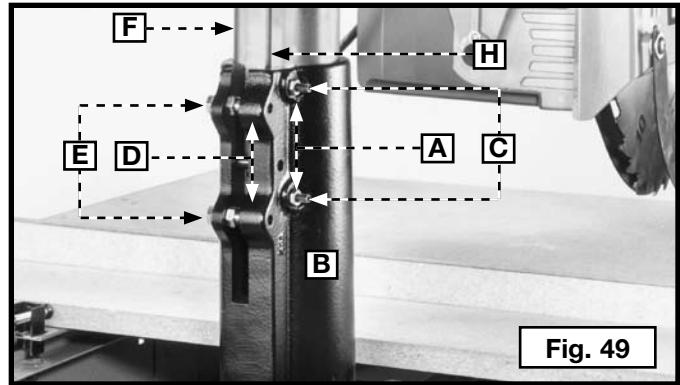
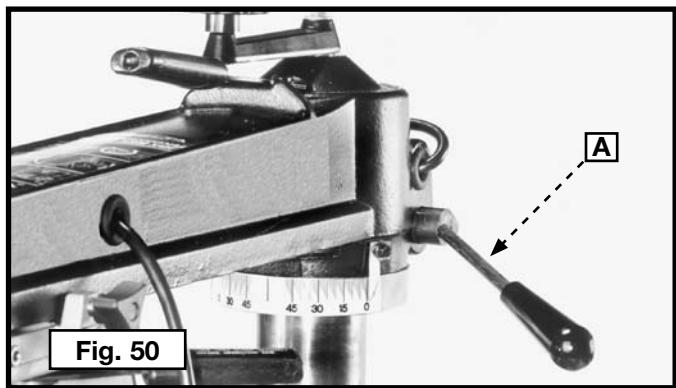
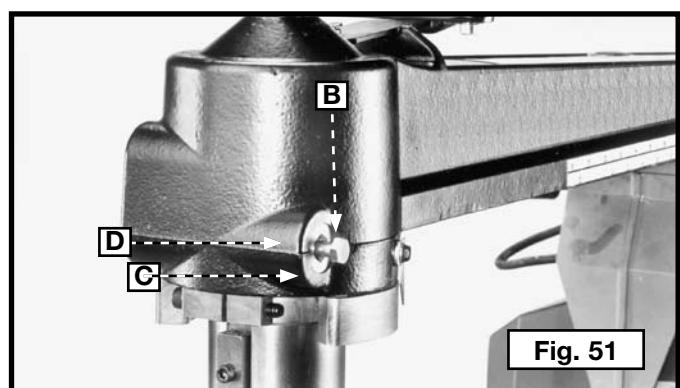

Fig. 49
Fig. 50
Fig. 51
1. Loosen the hex nuts (A) Fig. 49 and the gib adjustment screws (C).
2. Loosen the hex nuts (D) and turn the screws (E) until the column base wraps around the column securely and can be raised or lowered without binding. Tighten the hex nuts (D) against the column base.
3. Tighten the gib and adjustment screws (C) against the gib (H) until all side-to-side play is removed. Tighten the hex nuts (A) against column base.
To reposition the track arm clamping handle (A) Fig. 50 when it does not lock in a convenient position:
1. Loosen and remove the track arm clamping lever (A) Fig. 50. Push the hex bolt (B) Fig. 51 back through the hole until the head of the bolt is out of the recessed bushing (C).
2. Rotate hex bolt (B) Fig. 51 in the desired direction.
3. Push the hex bolt (B) Fig. 51 back through hole. Check to see if the head of hex bolt is seated properly in the recessed bushing (C). Attach the track arm clamping lever.
**NOTE:** If the track arm clamping lever (A) Fig. 49 tightens before approximately four turns, the clamping bushings (one of which is shown at (C) Fig. 51 may have rotated. These bushings should seat completely inside the track (D). If they do not, slightly loosen the clamping lever (A) Fig. 50 and rotate the clamping bushing (C) Fig. 51 until it seats. Check to see if you need to rotate the bushing on the clamp lever side also.
**NOTE:** The clamp lever (A) Fig. 50 will thread at one of two positions. If, after making the adjustment, the clamp lever (A) tightens 180° from where desired, slowly unscrew clamp lever (A) while holding in on the hex bolt (B). When the clamp lever (A) comes off of the hex bolt (B), rotate the clamp lever (A) 180°. Thread the clamp lever.